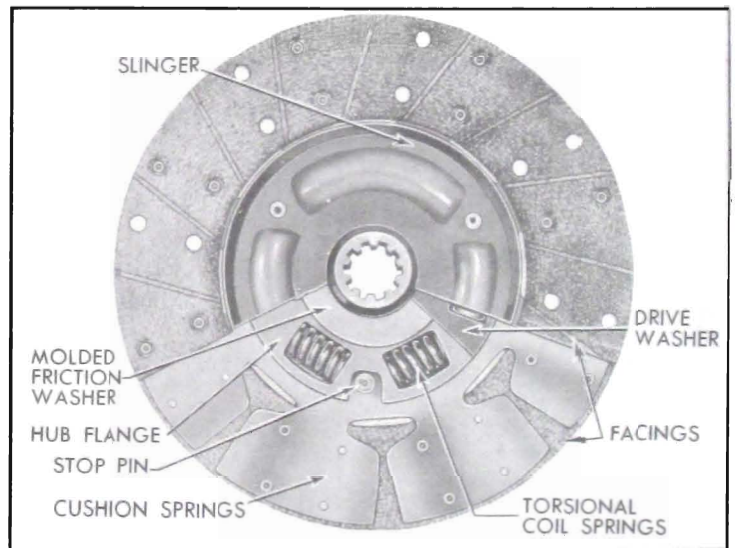

Figure 4-2—Driven Plate—Transmission Side
The outer area of the driven plate is divided into segments which are formed in low waves to provide springs between the plate facings and thereby cushion engagement of the clutch. A woven facing, grooved to give quick release, is riveted to each side of every segment of plate. When the clutch is fully released, the waved segments cause the facings to spread approximately .050" and the movement of pressure plate provides an additional clearance of approximately .030" to assure full release of driven plate. See figure 4-2.
3. *Clutch Driven Plate.* Inspect driven plate for condition of facings, loose rivets, broken or very loose torsional springs, and flattened cushion springs. See figure 4-2.